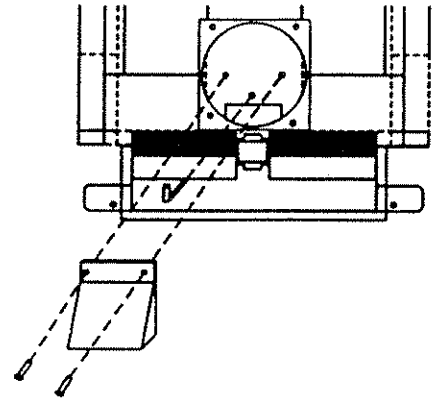

Fig. 31B
5. Place the igniter through the cleaning port and onto the fixing point on the he back of the fire box, and fit shield. (see fig. 31B).